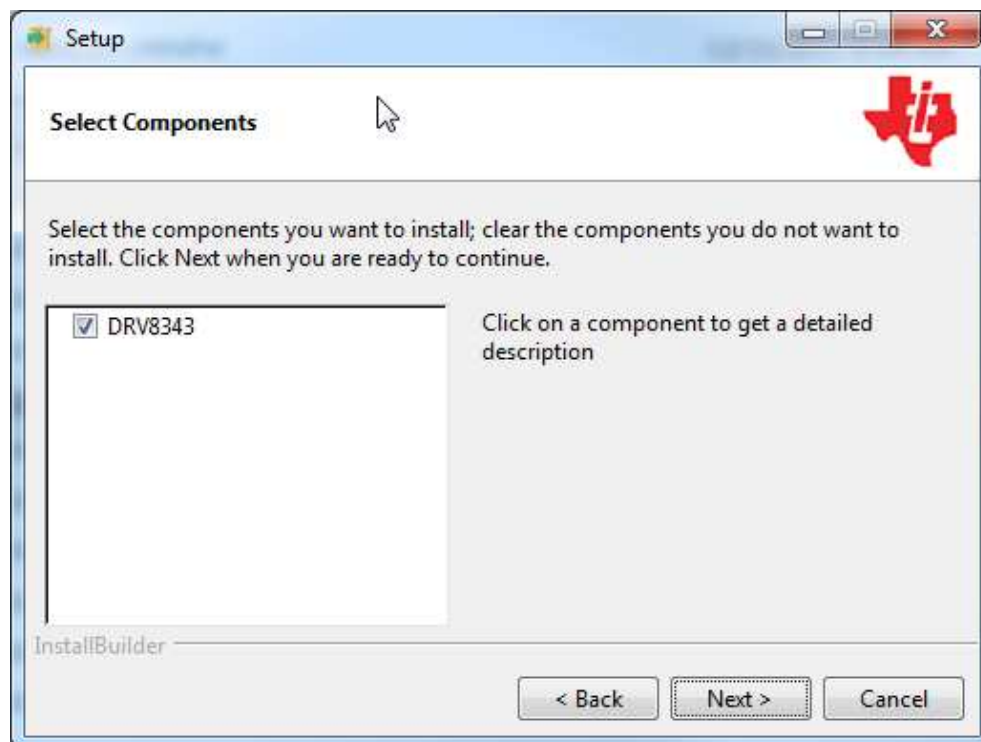

Figure 13. Select DRV8343-Q1 Setup Components
- Step 6. Select each DRV83x component to install (see Figure 13).